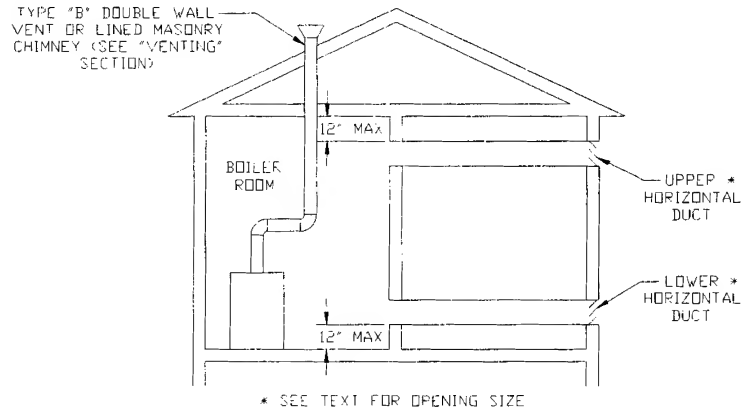

FIGURE 7: ALL AIR FROM OUTDOORS, USING HORIZONTAL DUCTS INTO BOILER ROOM
- Openings to outdoors via horizontal ducts (Figure 7) - Each opening must have a free cross sectional area of 1 square inch per 2000 BTU/hr of the total input of all gas fired appliances in the boiler room but not less than 100 square inches. Minimum opening size is 3 inches.